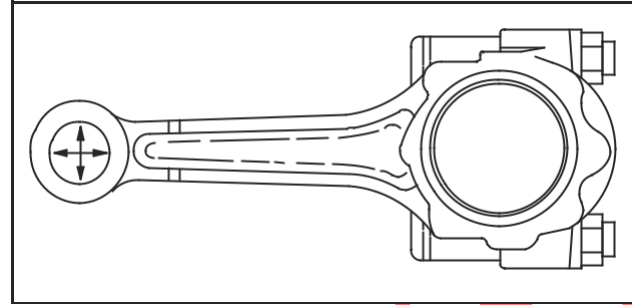

Fig. 7 – Checking Piston Pin Bearing
2. Check piston pin bearing, Fig. 7.